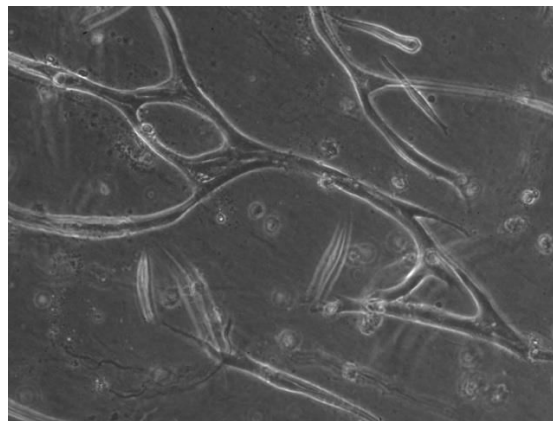

Figure 1. Day 5; phase contrast image of lumen-containing HUVEC tubule, 200x.
Angiogenesis is the formation of new blood vessels from preexisting vessels. As such, angiogenesis research is relevant in numerous contexts such as organ development, tissue repair, wound healing, and tumor progression. At its most basic, it is a complex multistep physiological process that involves cell survival, proliferation, migration, extracellular matrix degradation, altering cell-cell adhesion, cellular differentiation, network formation, lumen formation, and pruning. Due to the complexities, angiogenesis is difficult to study in a 2-dimensional *in vitro* system, which inherently lacks multiple aspects of the physiological angiogenic microenvironment. ScienCell™'s 3-dimensional Embedded Tubule Formation Kit (3D-ETF) is an inclusive kit that utilizes purified collagen type I to mimic all the intricacies of the angiogenic process more closely, including the lumen formation step (see Figure 1 at end of protocol). Gels can be fixed and stained for quantitative assessment.
- B15. Observe cells; assay typically peaks around day 6. See Figure 1 below for tubule formation.